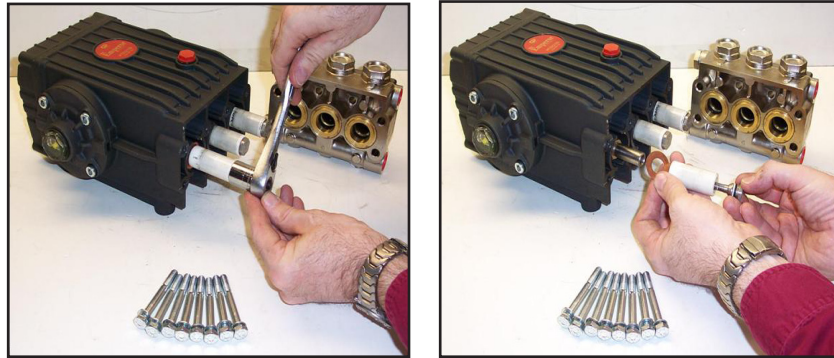

Figure 5-9. Remove Stainless Steel Plunger Bolt and Ceramic Plunger
15. Remove the stainless steel plunger bolt and ceramic plunger from the plunger guide (see Figure 5-9).
17. Separate plunger bolt from ceramic plunger (see Figure 5-9).